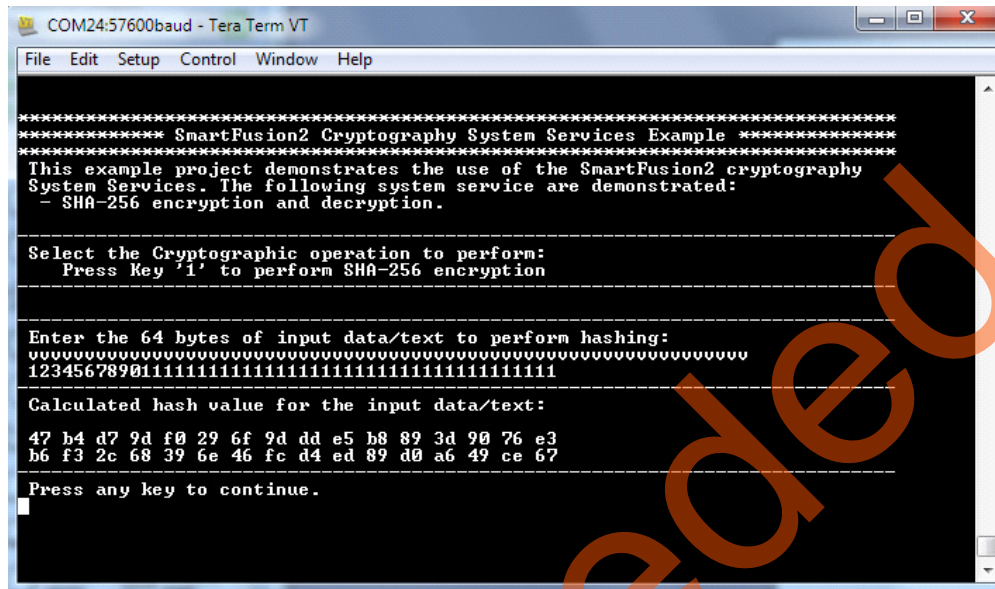

Figure 8 • SHA-256 System Service Design using HyperTerminal
- Run the debugger in the SoftConsole tool. The **HyperTerminal** window shows various options to run the SHA-256 operation. Follow the instruction on the screen to run the example. Figure 8 shows the **HyperTerminal** window showing SHA-256 operation.